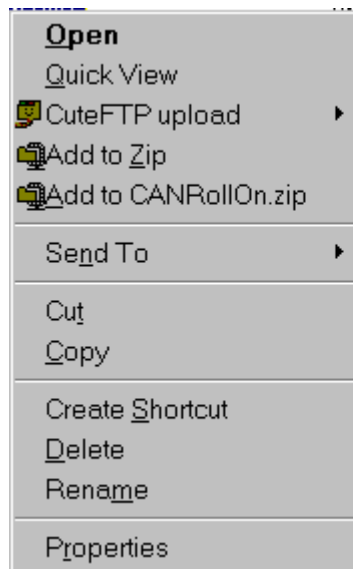

Fig. 7.4
- Right-click on **CANRollOn.exe** file name to call the **Open** dialog box - Fig. 7.4.
- Right-click on the above **Shortcut to CANRollOn.exe** to open again the dialog box shown in Fig. 7.4.